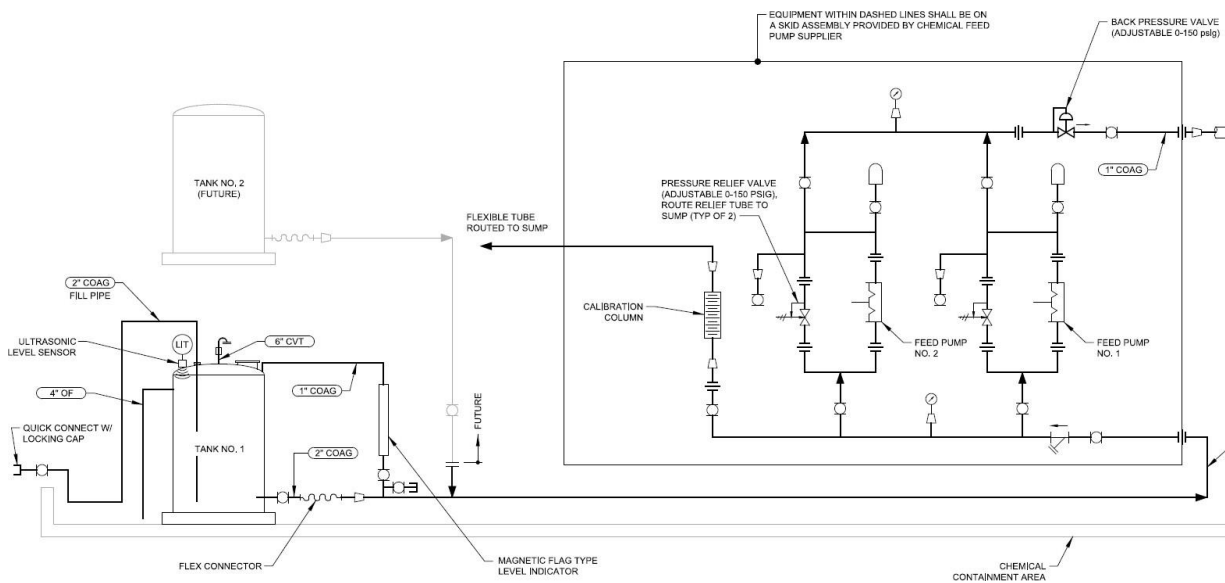

Figure 7: Example PFD for a chemical feed system.
- Process flow diagrams of treatment system (see Figure 7),